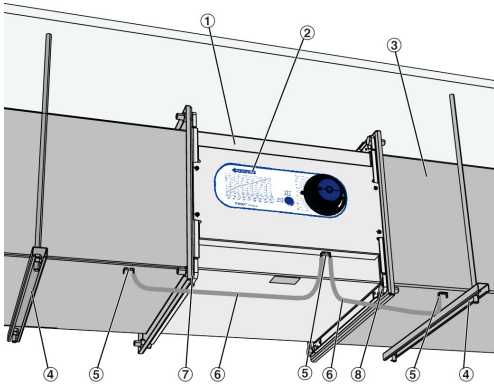

Fig. 6: Installation example
1. ▶ Install suspension rods and bars (Fig. 6/4) at the installation location, at a distance of approx. L+100 mm.
2. ▶ Assemble the ducts (Fig. 6/3) and lead them up to the installation location of the controller.
3. ▶ Insert seals (Fig. 6/7) between the flanges
Observe the air direction arrow (Fig. 6/2) during installation.
4. ▶ Screw the controller (Fig. 6/1) together with screws, washers and nuts M10 (Fig. 6/8).
- Screw connection (Fig. 6/8) with screws and washers M8;
7. ▶ Make the equipotential bonding (Fig. 6/6) using ground strap and blade connector (Fig. 6/5).